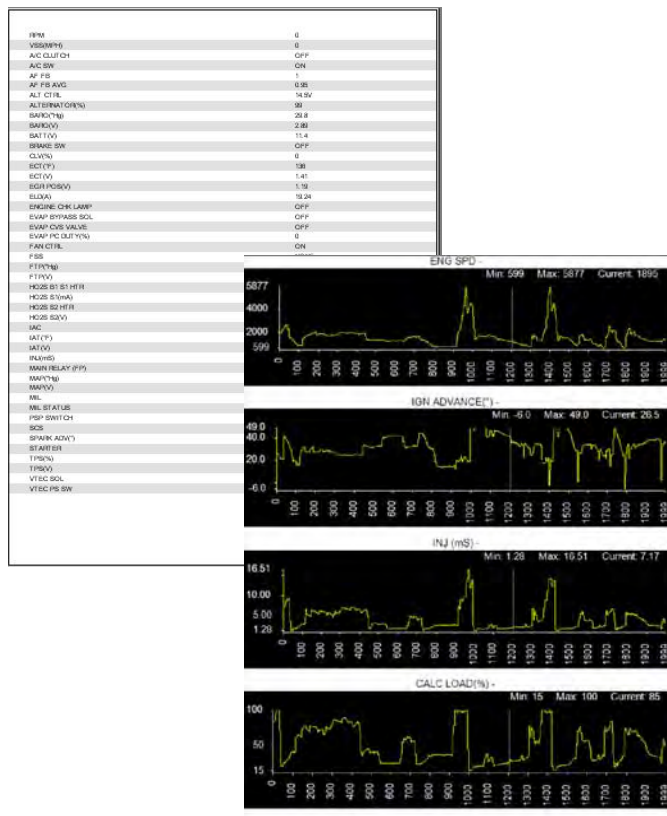

Figure 12-20 Print preview window (text list and graphs examples)
- b. If Print Preview was selected, a preview window opens. Select the printer icon (Figure 12-20) to send the file to the printer.